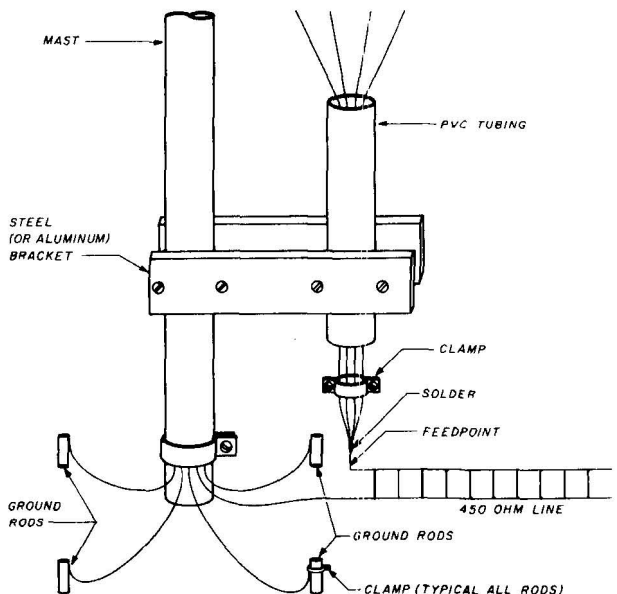

fig. 6. Mechanical details at the bottom end of the TV mast. The ground rods are essential for good performance.
16. Now, provide a bracket at the base of the mast for the purpose of connecting the four umbrella wires together while insulating them from the mast. This is the feedpoint for the antenna. One suggested method of anchoring and insulating the feedpoint is shown in figs. 2 and 6. However, as with other parts of this project, there are many different mechanical arrangements which will produce the same electrical results. Use your ingenuity. Remember, none of the dimensions are really critical, since the tuned feeders compensate for physical variations. If you're following fig. 6, however, pull the umbrella wires through the PVC tubing, tighten the clamp below the tubing, and trim off excess wire, leaving several cm of wire below the clamp. Now, bare the wires below the clamp and solder them together.
securely to the mast with heavy copper wire, tubing or strap (fig. 6).